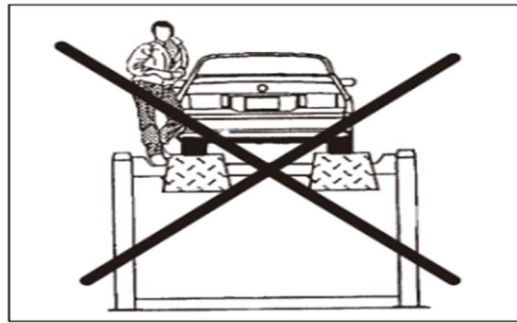

Figure 34 - Risks caused by unreasonable use
- It is not allowed to stand or sit on the lift platform during lifting operation. (Figure 34)